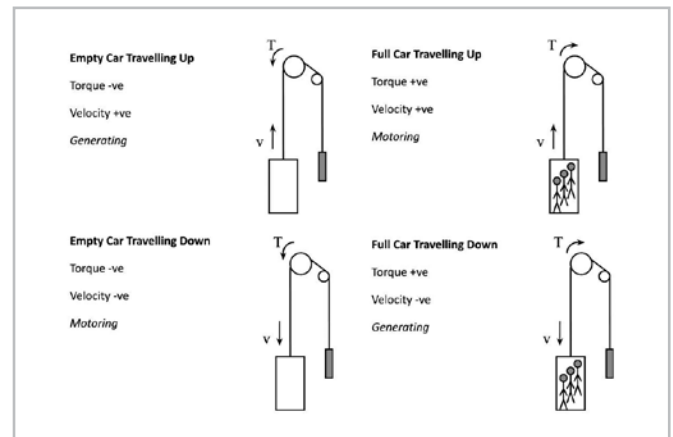

Figure 7 Four quadrant operation of a lift drive
A lift is said to operate in four quadrants, as shown in Figure 7. When a lift leaves the ground floor full of passengers, it is motoring, requiring predominantly positive torque (T) in a positive direction. As passengers are dropped off up the building, the counterweight becomes heavier than the lift, so the motor is providing predominantly negative torque in a positive direction. Similarly for a journey down the building, in a negative direction, the motor can be required to deliver both positive and negative torque.